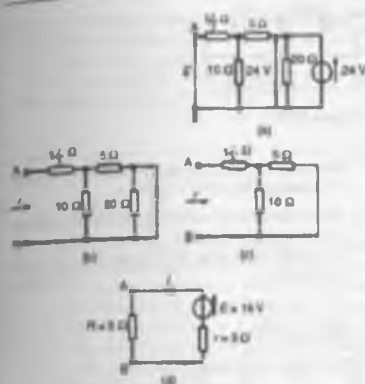

Figure 13.45
- (i) The $3\ \Omega$ resistance is removed from the circuit as shown in Fig. 13.45(a).
- (iii) Removing the source of e.m.f. and replacing it by its internal resistance means that the $20\ \Omega$ resistance is short-circuited as shown in Fig. 13.45(b) since its internal resistance is zero. The $20\ \Omega$ resistance may thus be removed as shown in Fig. 13.45(c) (see Section 13.4(v)).
From Fig. 13.45(c), resistance,
- (iv) The equivalent Thévenin's circuit is shown in Fig. 13.45(d), from which, current,